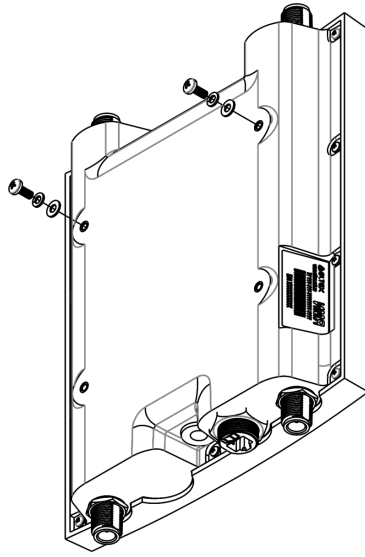

Figure 9 – Mounting screws to the device
2.2) Install DIN7985 M6 screws to the holes on the top of the case. Do not screw them fully. Leave at least 3 mm gap, see Figure 9.